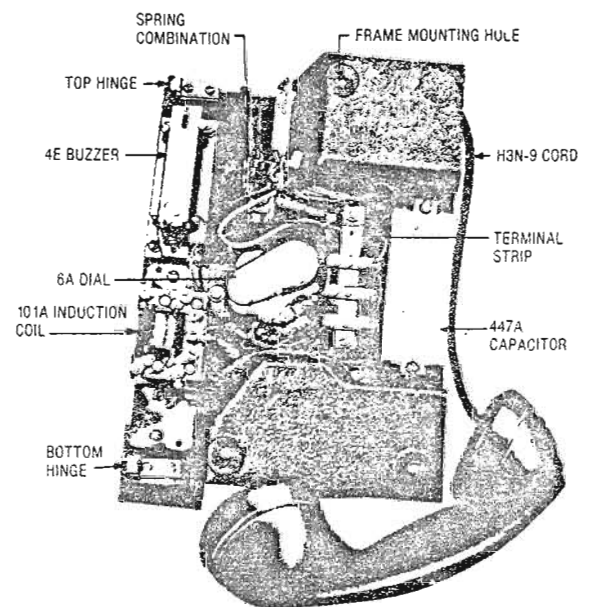
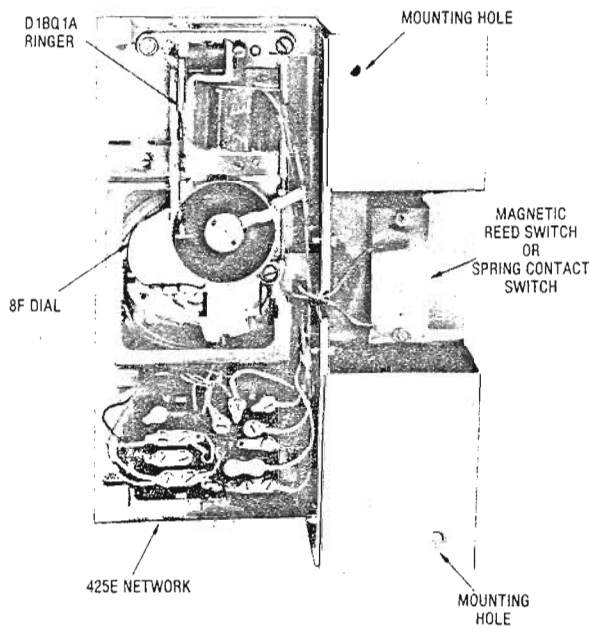

Fig. 5 — 322C Telephone Set (MD)
Fig. 6 — 522QA Telephone Set (Rear View)
- 3.18 A rear view of the 322C telephone set is shown in Fig. 5 while Fig. 6 shows the rear view of a 522-type set.